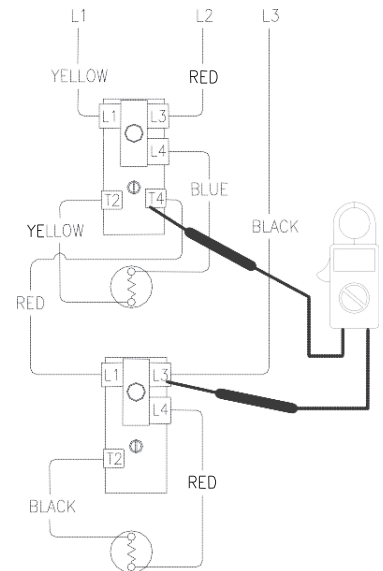

Figure 15
6. Check voltage across terminals T4 of upper thermostat & L3 of lower thermostat (see Figure 15).